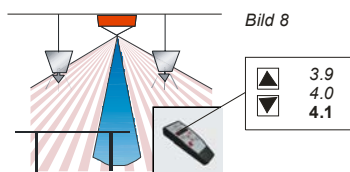

Bild 8
- With QuickSet plus, send the values to the detector in ascending or descending order in the "Brightness" menu (Figure 8).